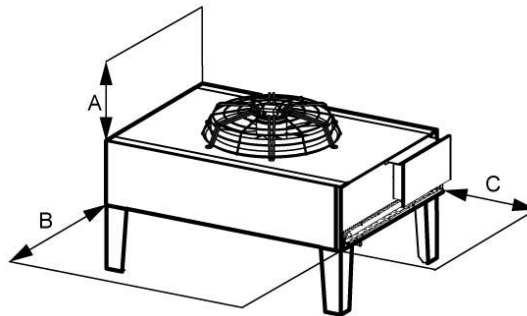
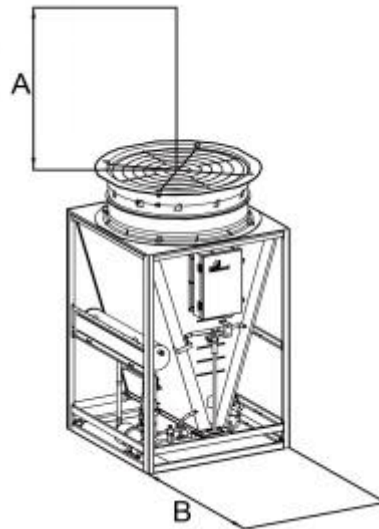

Fig. 2-8 Schematic diagram of installation and maintenance space on the front of a single fan outdoor unit
Fig. 2-12 Schematic diagram of V-shaped condenser installation and maintenance space
- CS/CD series air conditioner can be Horizontal Mounted and Side Mounted, installation and maintenance space are referred in Fig.2-8~Fig.2-12 and Table 2-8.